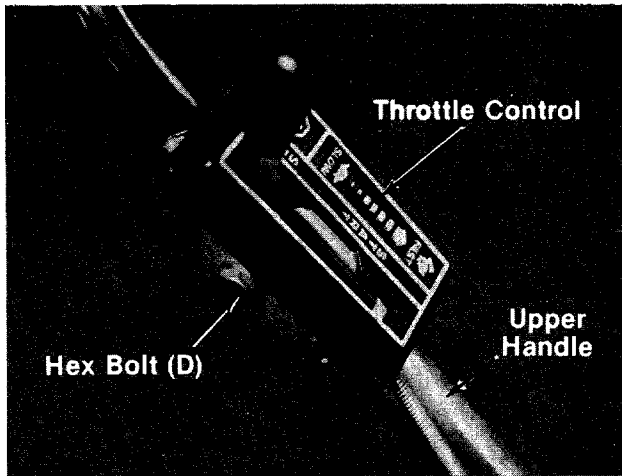

FIGURE 4.
5. Place the throttle control in position on right side of upper handle. Secure with hex bolt (D) and lock nut (E). See figure 4.